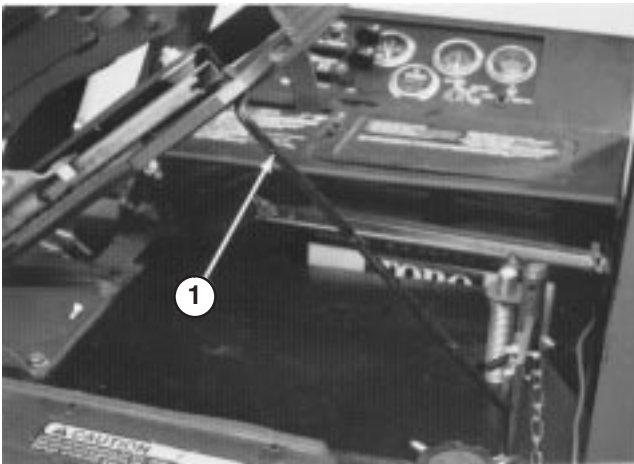

Figure 7
8. Hold seat up with seat support rod (Fig. 7).
10. Hold seat up with seat support rod (Fig. 7).